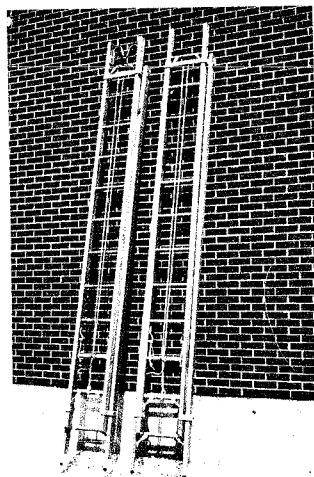

Fig. 1 — Extension Ladders
2.02 Extension Ladders (Fig. 1) are supplied in 24, 28, 32 and 40 foot sizes. The size of an Extension Ladder is the sum of the lengths of the two sections. All ladders are provided with spurs, unless otherwise specified, to prevent the ladder feet from slipping. 24 and 28 foot ladders are equipped with a Pole Grip unless ordered with Rotatable Ladder Hooks for aerial cable work.